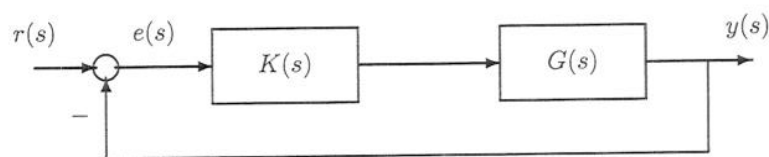

Figure 4
4. Consider the feedback control system in Figure 4 below. Here,
- (b) Take $K(s) = 1$ in Figure 4.
- (c) (i) Explain what is meant by a Proportional-plus-Integral (PI) compensator. Your answer should include an expression for such a compensator, and a description of its frequency response. [5]